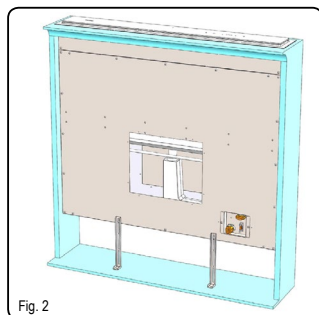

Fig. 2
5. Fix the downdraft inside the cabinet, using the special fixing brackets supplied with the product (Fig. 2). Insert the brackets in the lower side of the downdraft (Fig. 2), in such a way that there is a 2mm distance between the lower side of bracket and the bottom of the cabinet (Fig. 2).